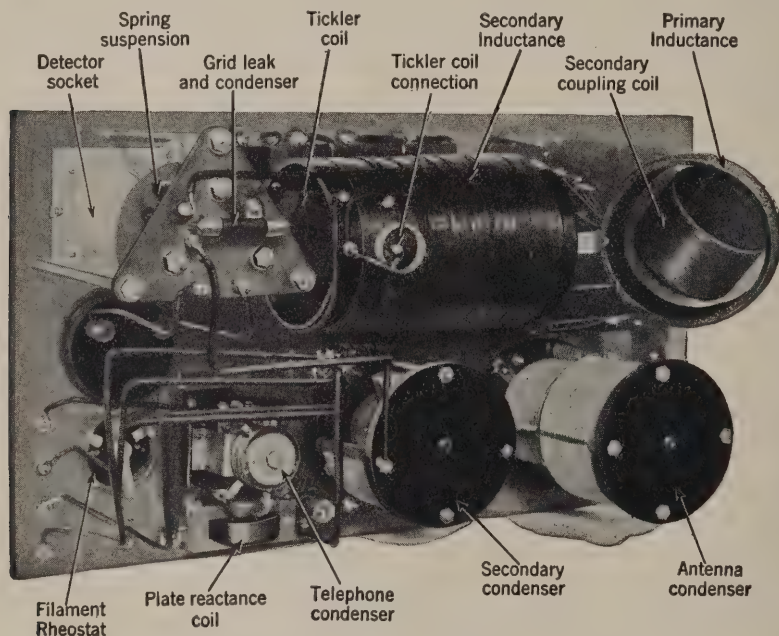

FIG. 3.—Rear view of the IP-501 receiver.
Practical Operation and Description of the IP-501 Receiver.—A rear view of the IP-501 is shown in Figure 3. To place the receiver in a condition for the reception of an incoming signal wave the handle of the aerial change-over switch (86) is thrown upward to the receiving position, which allows the signal oscillations to flow from the antenna through contact *B* to primary inductance switch (90), through the turns selected in the inductance (89), through the antenna series tuning condenser (92), and thence through the ground conductor to ground (93). The winding marked (98) is part of the